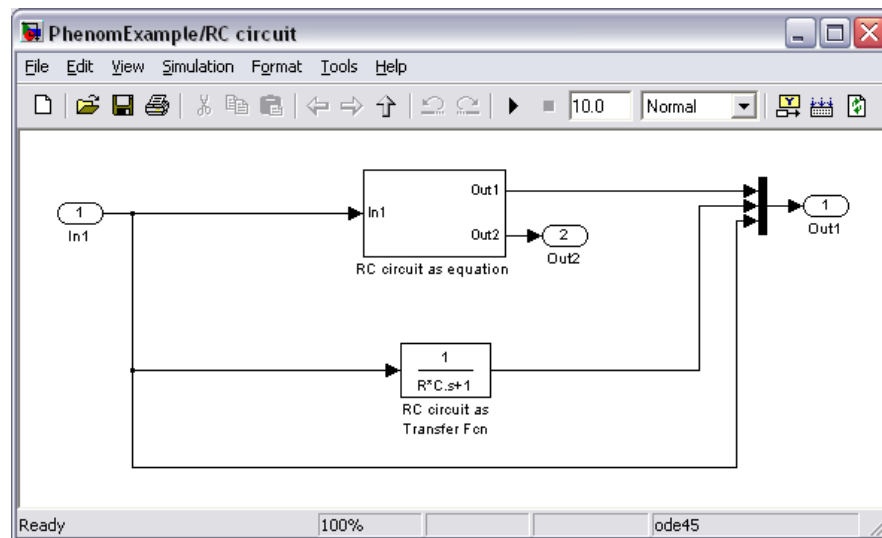

Figure 11 Phenomenological model in two forms
In such form the model can be created with the use of Transfer Fcn block (Figure 11) or based on equation (7) the model output can be estimated as:
The integral block can be used to calculate the output of the system (Figure 11).